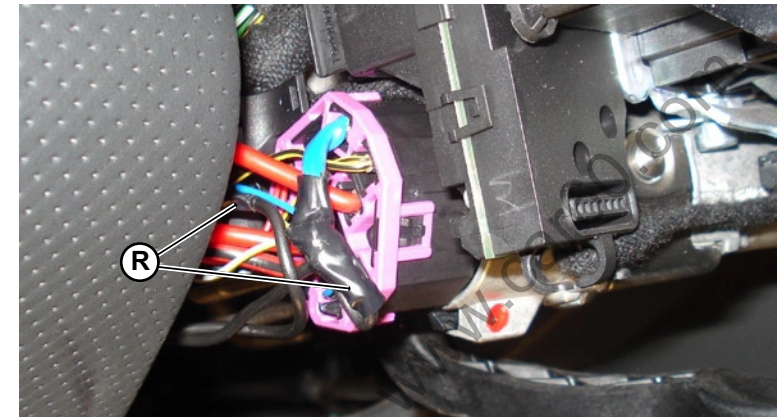

Fig.13
6. As showed in the picture beside (**R-Fig.13**), it's necessary to unite the two blue wires of each couples and solder their (soft solder) with one of the two VTS wires of the crank inhibition those are positione by the operation 2 (of this page). The result of this operation must be: a couple of blue wires soldered with a black VTS wire and the other couple of blue wires soldered with the other black VTS wire. In this way the VTS control unit is serial connected with the two blue wires those are necessary to transfer the ignition signal from the key's block to the engine starter.
7. Protect the soft soldering using insulating tape as shown in the picture beside (**R-Fig.13**) and, using black flock tape, cover the harness of the black/violet connector in order to protect it as it was protect before start these operations.